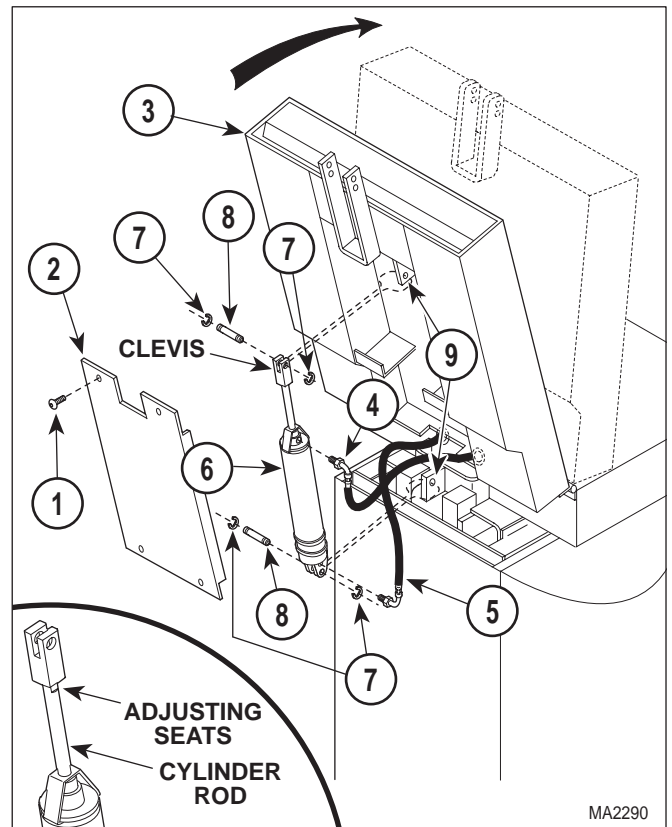

Figure 4-13. Back Cylinder Removal / Installation
- (8) Loosen two terminal screws; then tag and disconnect back cylinder wires (4) from terminal block (5).
- (9) Pull back cylinder wires (4) out thru wire hole.
- (10) Remove four screws (1, Figure 4-13) and back cover (2) from back weldment (3).
- (11) Cut two cable ties which are securing hose assemblies (4 and 5) to back cylinder (6).
- (12) While supporting back weldment (3), remove four E-rings (7), two clevis pins (8), and partially separate back cylinder (6) from cylinder brackets (9). Fold back section over onto seat section.
- (13) Tag hose assemblies (4 and 5).
- (1) Connect hose assembly (5, Figure 4-13) to back cylinder (6).
- (2) Connect hose assembly (4) to back cylinder (6).
- (3) Install back cylinder (6) on cylinder brackets (9) and secure with two clevis pins (8) and four E-rings (7).
- (4) Secure hose assemblies (4 and 5) to back cylinder (6) with two cable ties.